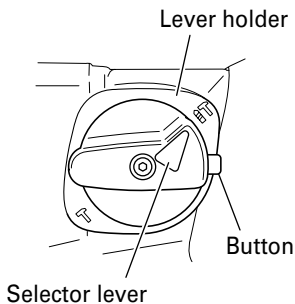

Fig. 6
- (1) Switching to "rotation + hammering"
- (b) Align ▲ of the selector lever and ⬆ of the lever holder as illustrated in Fig. 6.